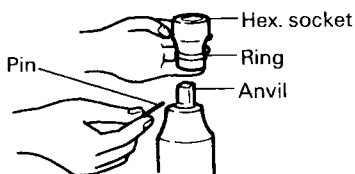

Fig. 1
(1) Pin, O-ring type (WH22) (Fig. 1)